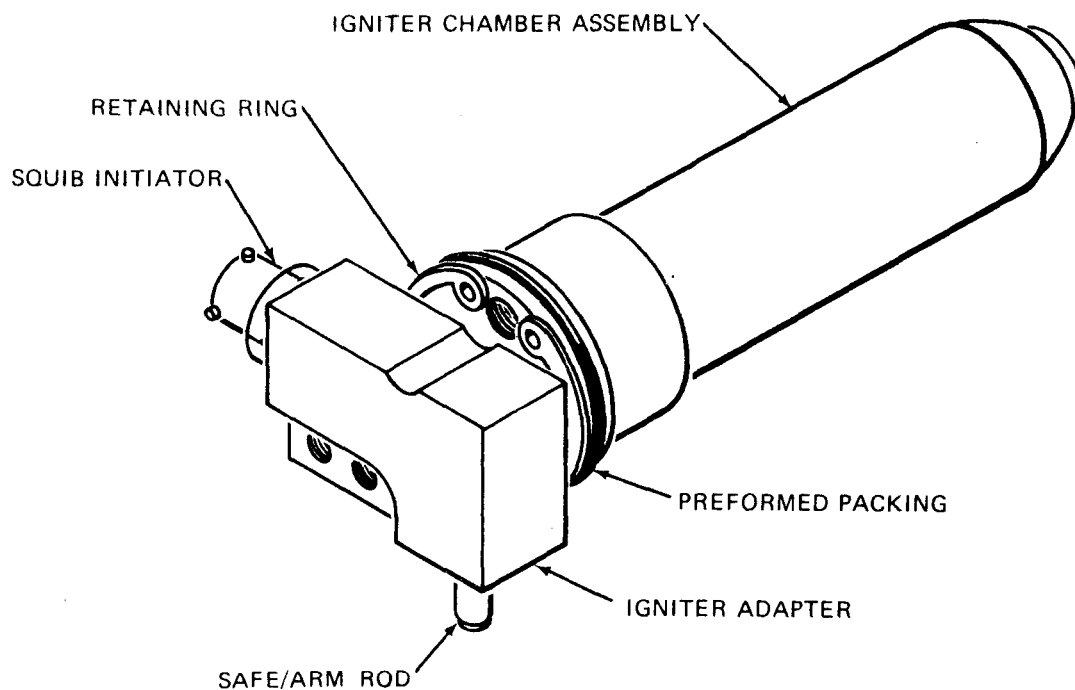

Figure 5-59. MK 274 Igniter
- d. MK 274 Igniter: Consists of the igniter chamber assembly, igniter adapter, safe/arm rod, dual delay squib initiator, and retaining ring. The initiator is mechanically isolated from the main charge by an igniter adapter containing a control piston. The igniter includes a safe/arm rod which can be rotated and locked by means of a spring-loaded safe/arm lock assembly. Used with the MK 53 motor (reference figures 5-59 and 5-60).